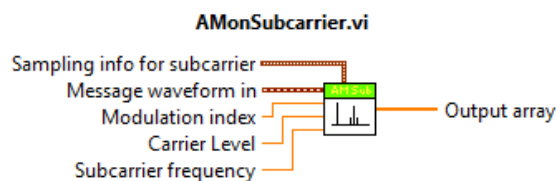

Figure 15: AM sub-vi
- I. In TX template go to Function > Select a VI... then select your sub-vi. The **AMonSubcarrierYOURINITIALS.vi** is shown in Figure 15.